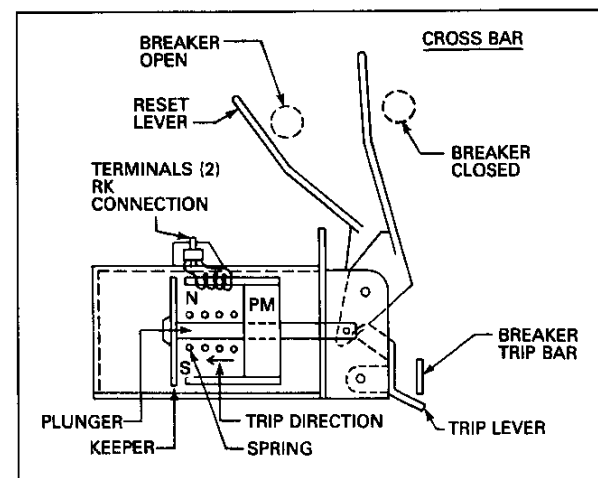

Fig. 2 Actuator Diagram
When the actuator receives a tripping current from the RK, it releases a mechanical force to trip the breaker. The actuator is made up of a permanent magnet and a spring (see Fig. 2). When the breaker is open, the cross bar pushes the reset lever. The reset lever moves the plunger out, and the plunger then compresses the spring and pulls the keeper until it contacts the pole pieces of the magnet. Although the magnet cannot pull and reset the keeper against the force of the spring acting on the plunger, it can hold the spring force when the keeper is in contact with the magnet. A tripping current from the RK unit counteracts the effects of the permanent magnet allowing the spring to separate the keeper from the magnet and move the plunger to actuate the trip lever.
3. Operate the actuator a few times. Alternately pull back on the reset lever (see Fig. 2) and then trip by applying 28 Vdc (be sure to use correct polarity) to the terminals.
3. Close the breaker manually and with a 28 Vdc source check tripping and reset functions of actuator, repeat several times to verify proper functioning. It may be necessary to bend reset arm for positive resetting of actuator, Fig. 2.